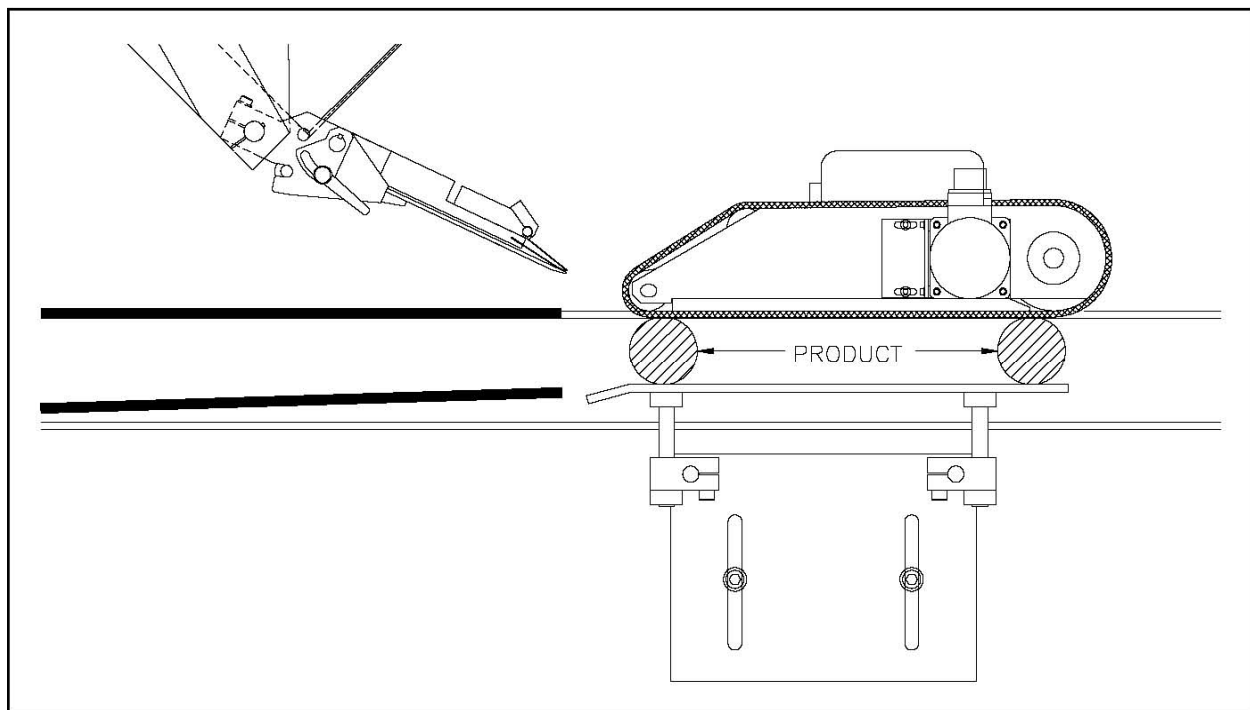

Figure 55 Pressure Bar Position
6. Position the pressure bar $\frac{1}{3}$ to $\frac{1}{2}$ the height of the product. (See Figure 55).
7. Make sure that the pressure bar is parallel with the conveyor chain top from in feed to out feed. See Figure 55.
8. Position the pressure bar against the two products (See Figure 55). Push the pressure bar against the products to collapse the pressure springs slightly and evenly. Tighten the pressure bar assembly in place. Remove the products.